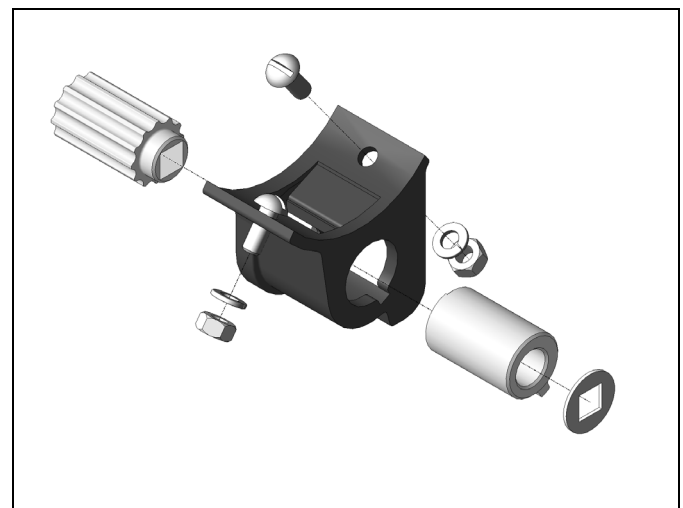

Figure 4-8 Individual Cups
3. Individual cups can be adjusted by loosening their mounting bolts, moving cups and then re-tightening. See Figure 4-8.